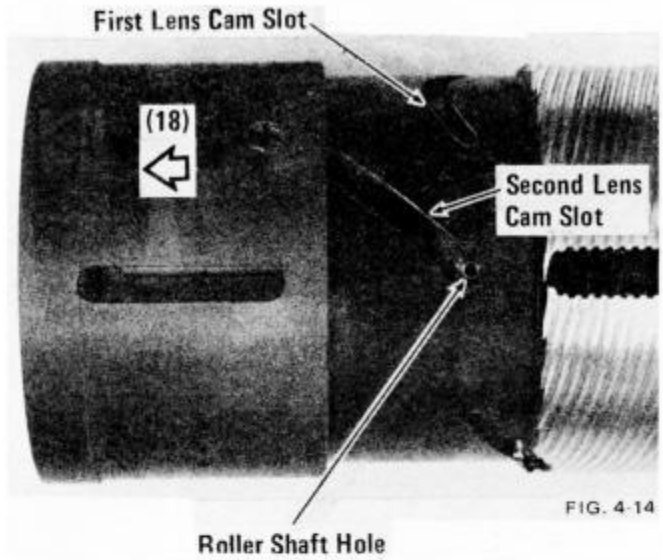

FIG. 4-14
b) Slide 1st lens group slide housing (29) off inner helicoid as shown in Fig. 4-14.
- f) Install 2nd lens roller shaft (39) and roller (38) through slot in 1st lens slide housing and into roller shaft hole in 2nd lens slide housing. Fig. 4-14 and 4-13.